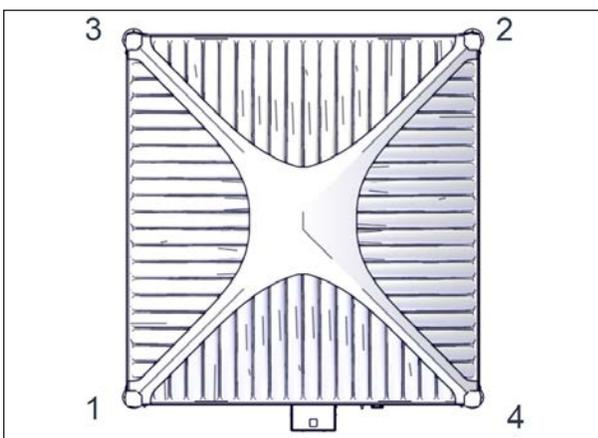

FIGURE 64: INSTALLATION PATTERN FOR THE OUTER CORNER BRACKETS (4)
- Next steps show how to install the outer corner brackets (4). Figure 64 shows the installation pattern (four brackets, four corners). Install the first outer corner bracket on corner number 1 and then keep following the pattern for the remaining brackets.